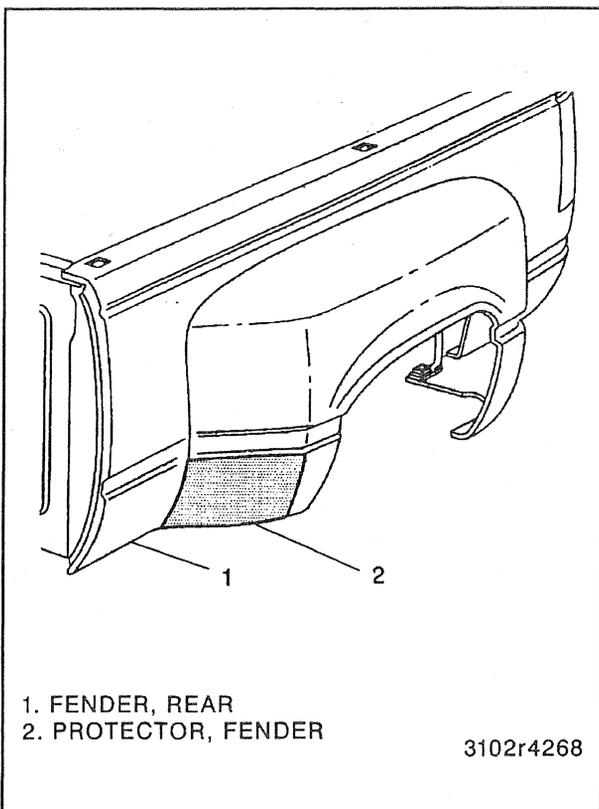

Figure 29—Fender Protectors
- 1. Be sure the fender is clean (figure 29).